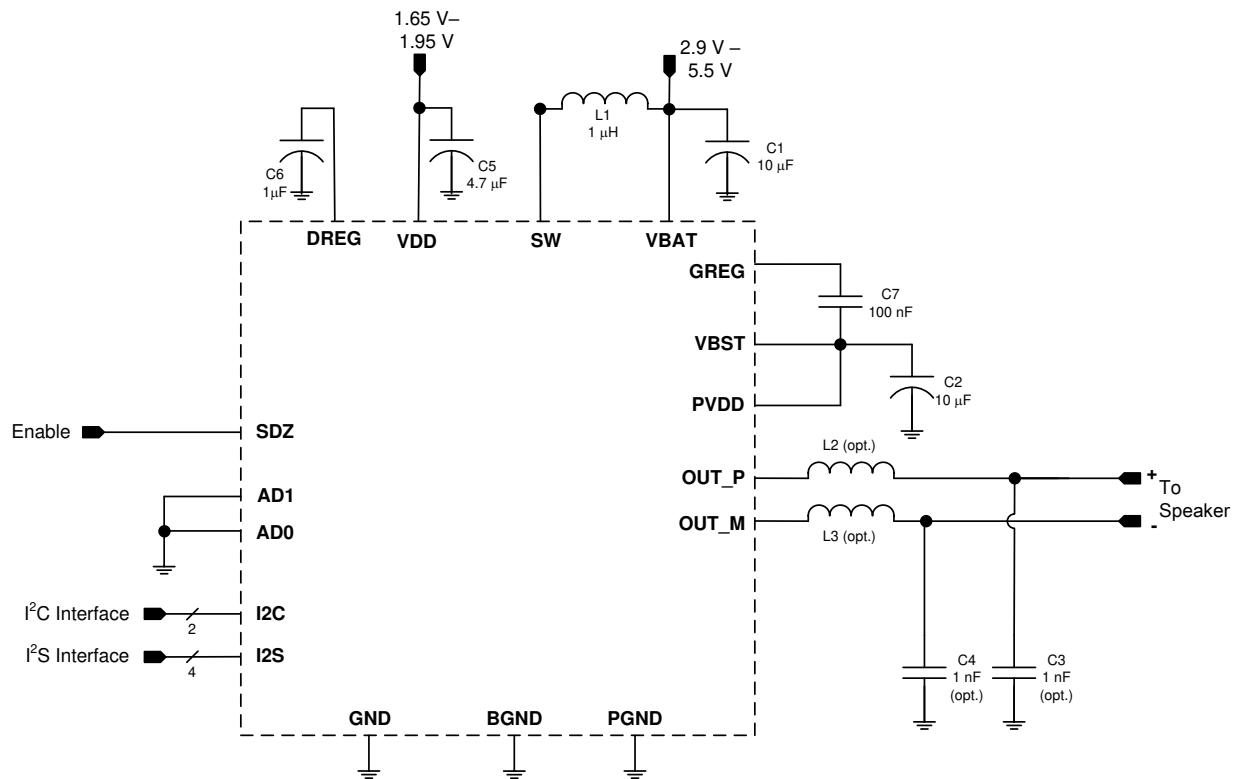

Figure 50. Typical Application - Digital Audio Input
The boost converter requires three passive devices that are labeled L1, C1 and C2 in Figure 50 and whose specifications are provided in Table 272. These specifications are based on the design of the TAS2110 and are necessary to meet the performance targets of the device. In particular, L1 should not be allowed to enter in the current saturation region. The saturation current for L1 should be > ILIM to deliver Class-D peak power.
The system designer may want to include passive devices on the Class-D output . These passive devices that are labeled L2, L3, C3 and C4 in Figure 50 and their recommended specifications are provided in Table 272. If C3 and C4 are used, L2 and L3 must also be installed, and C3 and C4 must be placed after L2 and L3 respectively to maintain the stability of the output stage.
The boost supply (VBAT) and associated passives need to be able to support the current requirements of the device. By default, the peak current limit of the boost is set to 4 A. Refer to Table 86 for information on changing the current limit. A minimum of a 10  $\mu$ F capacitor is recommended on the boost supply to quickly support changes in required current. Refer to Figure 50 for the schematic.
- Use supply decoupling capacitors as shown in Figure 50 and described in Power Supplies.